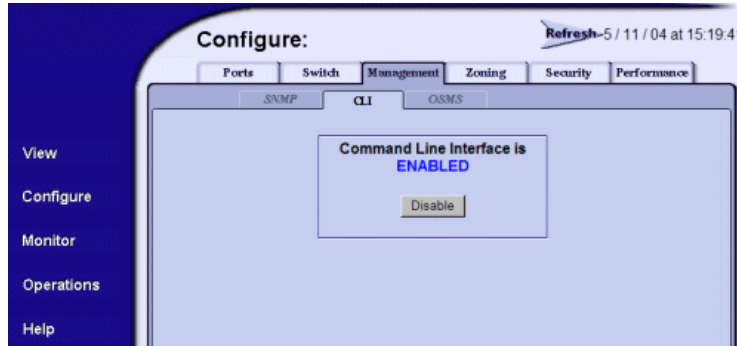

Figure 46: Management page—CLI tab
1. Choose **Configure > Management > CLI** to display the **CLI** tab (Figure 46).